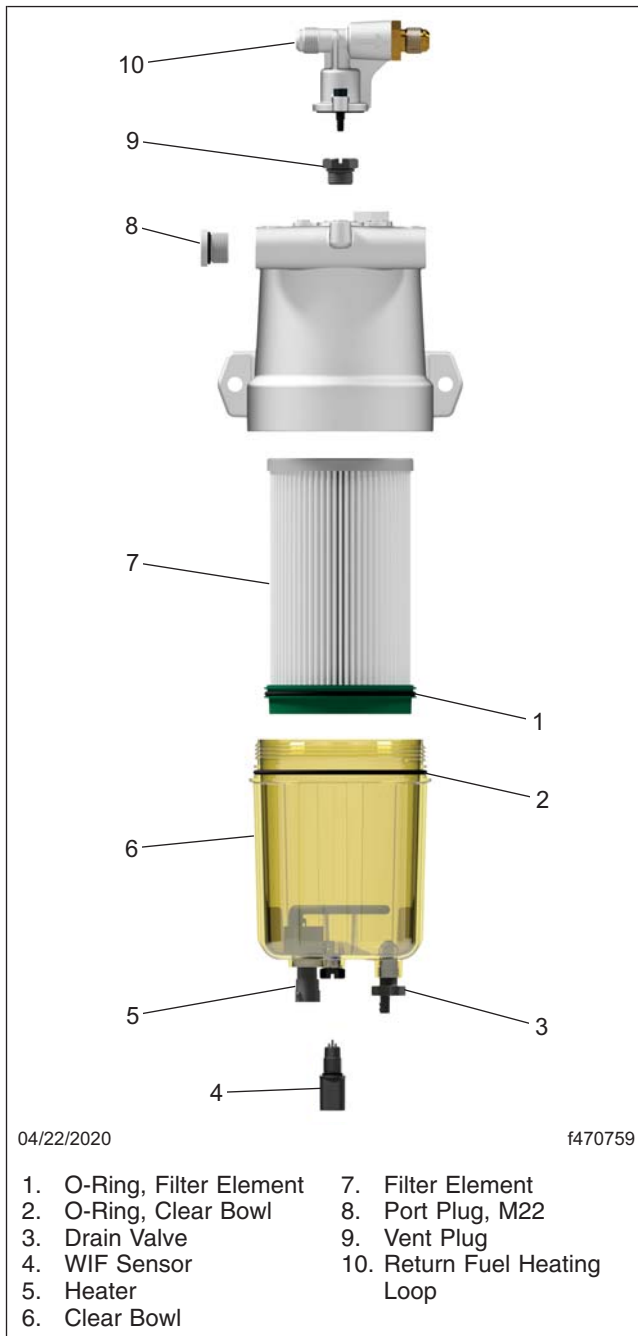

Fig. 1, Fuel Water Separator, Detroit
5. If equipped, remove the water in fuel (WIF) and heater harness connectors. See Fig. 1.